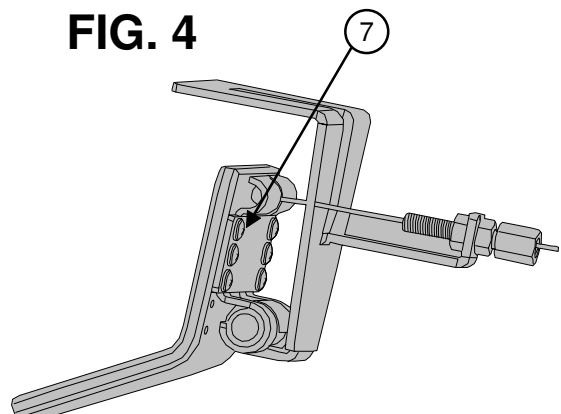

FIG. 4
3. Connect pedal plate to the pedal mount using six provided 4-40 screws (7). (FIG. 4)